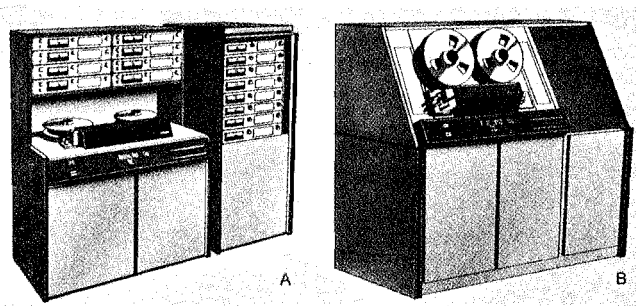

FIGURE 1-5
1.4 CONFIGURATIONS (FIGURE 1-5)